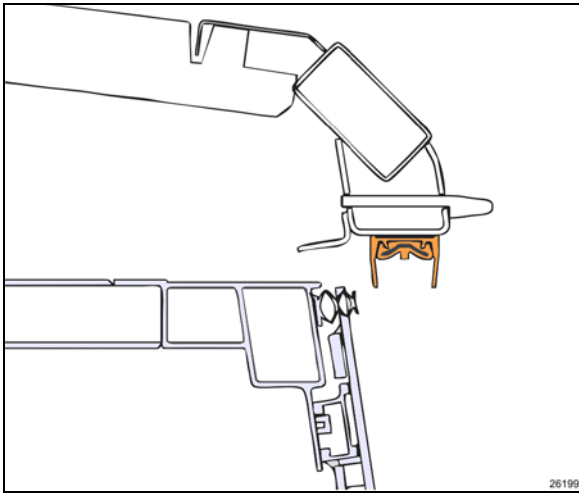

FIGURE 19: ROOM 2" INSIDE – UPPER SECTION VIEW
Do not retract slide-out room too far in. Retract just past the wiper seal. (Figure 19)
10. Using the manual override procedure paragraph 5, move the slide-out 2" inside the vehicle, just so the seal becomes accessible from the outside (Figure 19).